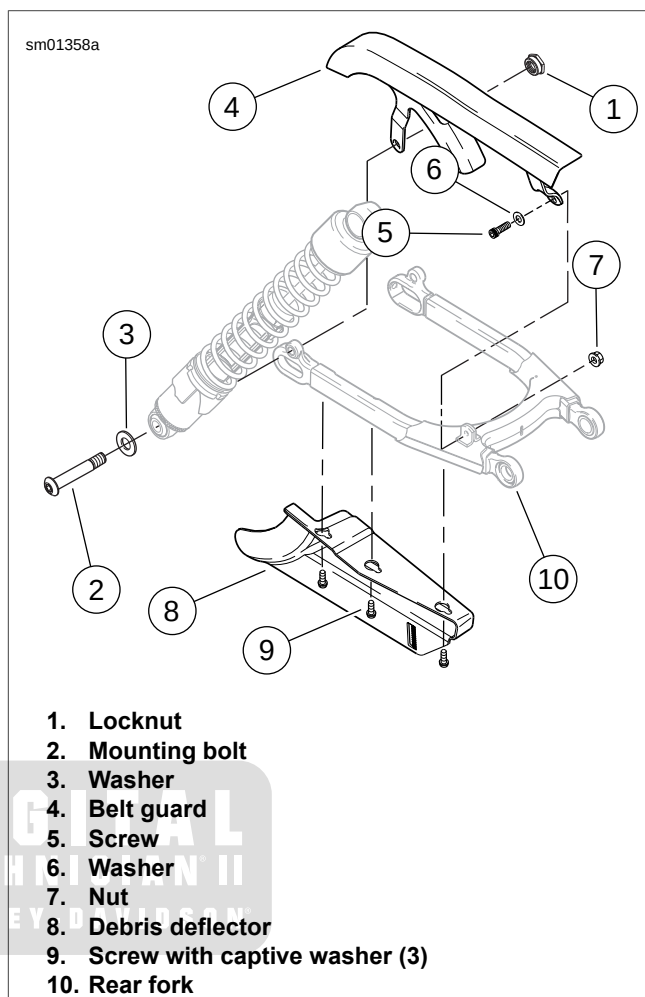

Figure 2-160. Belt Guard/Debris Deflector: XL Models
1. See Figure 2-160. Remove right side lower shock absorber mount locknut (1).
2. Pull shock absorber mounting bolt (2) out slightly until it clears mounting hole in belt guard (4).
3. Remove screw (5), washer (6) and nut (7) securing front of belt guard to rear fork (10).
1. See Figure 2-160. Slide belt guard (4) into place. Tab on front of belt guard mounts outboard of mounting bracket on rear fork.
2. Secure front of belt guard to rear fork (10) with screw (5), washer (6) and nut (7). Tighten to 120-180 **in-lbs** (13.6-20.4 Nm).
3. Push lower shock absorber bolt (2) through rear belt guard mounting hole. Thread locknut (1) on screw. Tighten to 45-50 ft-lbs (61-68 Nm).
1. See Figure 2-160. Loosen, but do not remove, three screws with captive washers (9) securing debris deflector (8) to underside of rear fork (10).
1. See Figure 2-160. Position debris deflector (8) in place on underside of rear fork (10).
2. Fit large end of keyway slots in deflector over screw heads and captive washers (9). Slide deflector rearward to lock screws in slots.